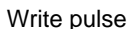

Figure 14 Output Circuit Operation of Standard Pins with Pull-Up MOS Option
Output Circuit Operation of with Pull-Up MOS Standard Pins: In the standard pin option with pull-up MOS, the circuit shown in figure 14 is used to shorten the rise time of output.
When the MCU executes an output instruction, it generates a write pulse to the R port addressed by this instruction. This pulse will switch the PMOS (B) on (in figure 14) and shorten the rise time. The write pulse keeps PMOS on for two-eighths of the instruction cycle time. While the write pulse is 0, a high output level is maintained by the pull-up MOS (C).